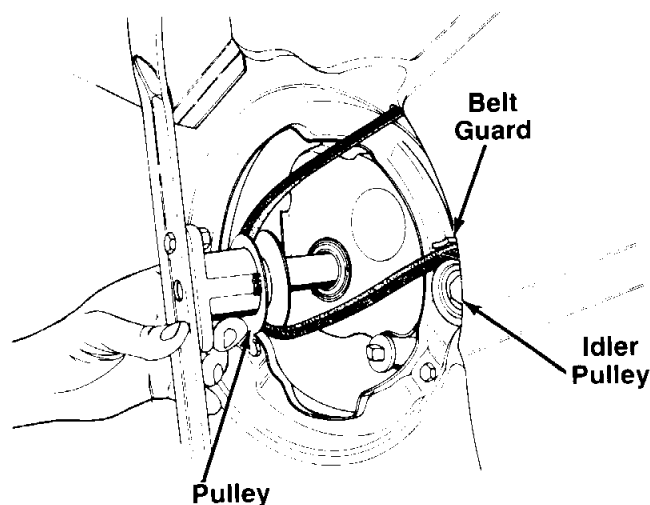

FIGURE 31.
7. Remove the belt from between the idler pulley and the belt guard on the idler pulley bracket. Refer to figure 31.
- C. Release the idler pulley so it falls down into position. Slide the belt in between the idler pulley and the belt guard on the idler pulley bracket as shown in figure 31.